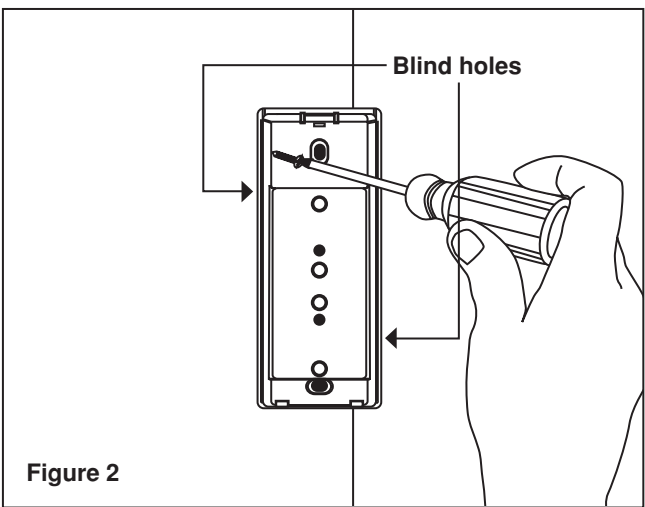

Figure 2
- Insert the two screws and hand-tighten them (see FIGURE 2).